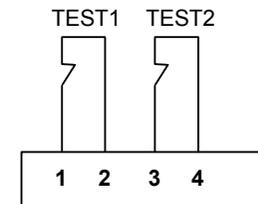

Figure 2
- ① Upon application of power, the red ALARM LED lights up and the START INTERLOCK function will prevent the operation of the output contacts.
- ② The active operation mode can be initiated only with a N.O. (normally open) start switch. After closing the start switch, the INITIAL TEST function will be activated automatically. The red ALARM LED goes off and the yellow TEST LED lights up.
- ③ After the start switch is released, and only if no fault is detected, both N.O. output contacts will switch to the active operation mode. In this case the yellow TEST LED goes off and the green FREE LED lights up.
- ④ Thereafter, any interruption of the optical beam(s) will cause the RESTART INTERLOCK to prevent automatic re-activation and force the operator to re-initiate with the start switch.
- ⑤ If a fault is detected, after the start switch is released, the yellow TEST LED goes off and the red ALARM LED lights up; the output contacts remain open (preventing machine start up).
- ⑥ During the active operating mode, the CYCLE TEST can be performed by means of 2 N.C. contacts: Test 1 and Test 2 (see figure 2). This procedure is normally used to detect the status of the BWS-T2 periodically.